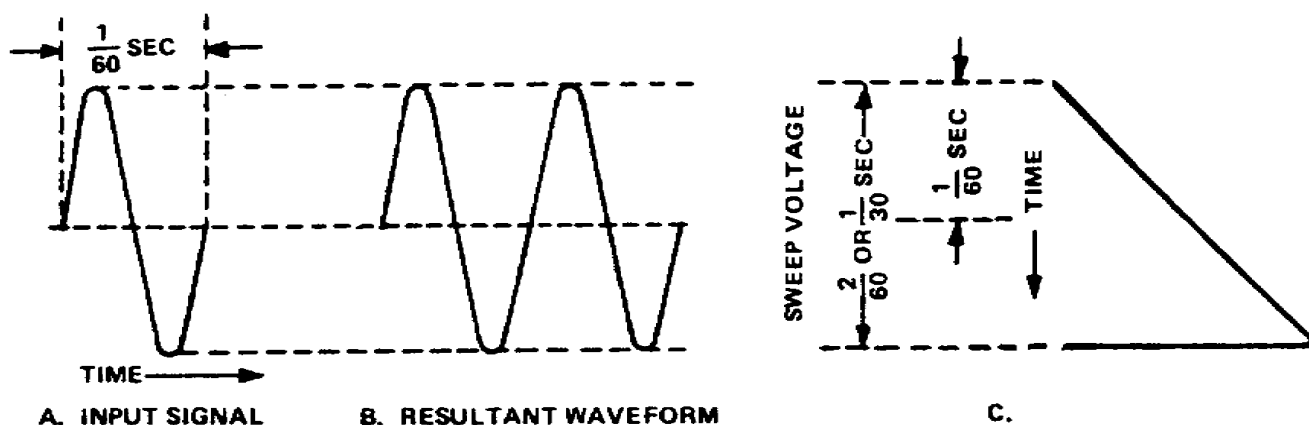

Figure 2-7. Sweep frequency lower than test signal frequency
a. Consider an input sinewave signal with a frequency of 60 Hz, and the resultant stationary display on the scope showing two complete cycles of the input waveform for one sweep of the time base generator. In this case the time base sweep is slow enough to display two cycles of the input wave, each one lasting  $1/60$ th of a second. The sweep time is now a total of  $2/60$  second (30 Hz) (fig 2-7).